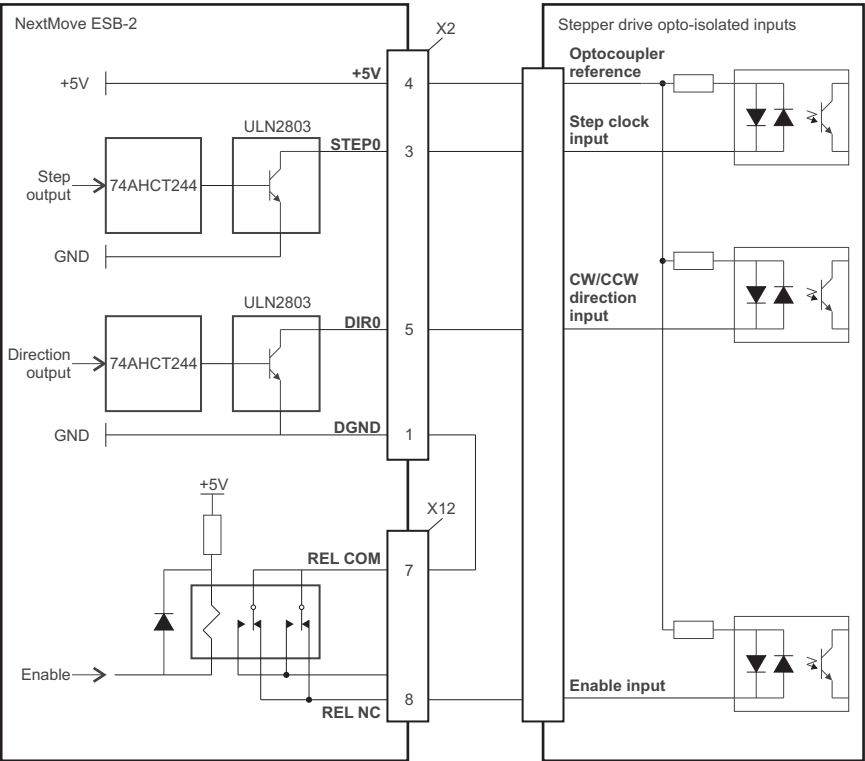

Figure 19: NSB203... / NSB205... only: Connections to a typical stepper drive (e.g. ABB DSMS series)
**CAUTION** The ULN2803 drivers are static sensitive devices. Take appropriate ESD precautions when handling the NextMove ESB-2. A 5 V, 600 mA supply is provided on connectors X2 and X3 for powering external circuits, as shown in Figure 19. The same 5 V supply is also present on connectors X5, X6, X7, X14 and X15 for powering encoders. Ensure that the total combined current demand of all 5 V outputs does not exceed 1.8 A. It is usually necessary to connect a 470  $\Omega$  pull-up resistor between the output and the 5 V supply (pin 4), especially where induced noise is affecting a step or direction output.